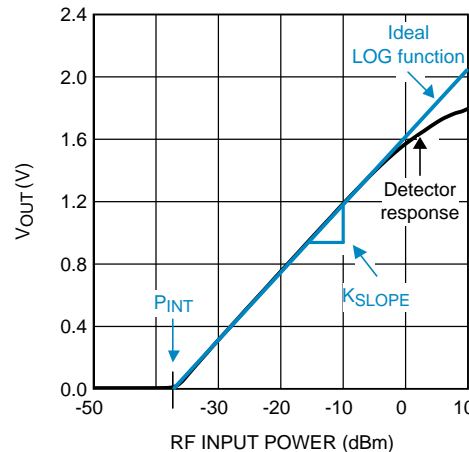

Figure 45. Ideal Logarithmic Response
- $P_{INT}$  is the power level in dBm at which the line intercepts  $V_{OUT} = 0$  V (see Figure 45). (9)